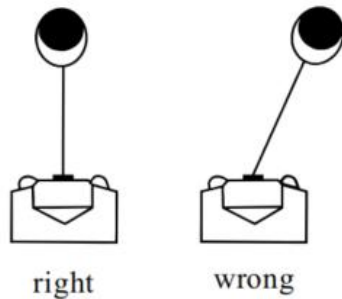

Fig. 2
5. Avoid continuous pulls from extreme angles because this will cause the wire rope to pile up on one end of the drum (See Fig. 2) and damage the wire rope.